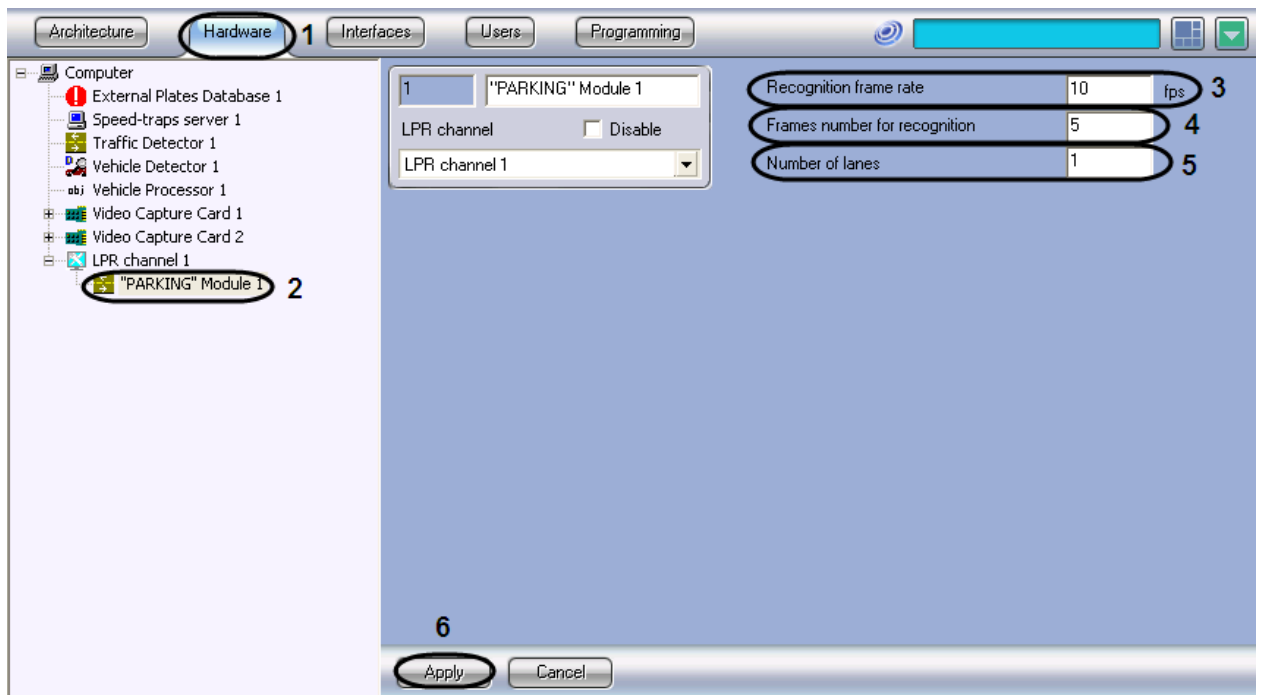

Fig. 7.2-4 Setting up the CARMEN-parking program module
1. Go to the Hardware tab in the system setting dialog window (Fig. 7.2-4, 1).
2. In the objects tree on the Hardware tab select the CARMEN-parking object, corresponding to the set CARMEN-parking program module (Fig. 7.2-4, 2). The settings panel of the selected object will open on the right side of the window.
3. In the field Recording frame rate enter the value of recording frame rate per second (Fig. 7.2-4, 3).
4. Enter the value in the field Frames number for recognition (Fig. 7.2-4, 4).
5. Enter the value in the field Number of lanes (Fig. 7.2-4, 5).
6. Click Apply to save the changes (Fig. 7.2-4, 6).